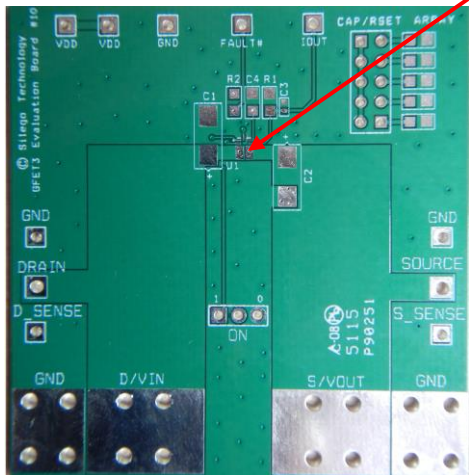

Figure 3. SLG59M1710V Evaluation Test Board
Please note how the VIN and VOUT pads are placed directly on the power planes in Figure 3, which minimizes the RDS(ON) associated with long, narrow traces. The VIN and VOUT pins dissipate most of the heat generated during high-load current condition. The layout shown in Figure 3 is illustrating a proper solution for heat to transfer as efficiently as possible out of the device.